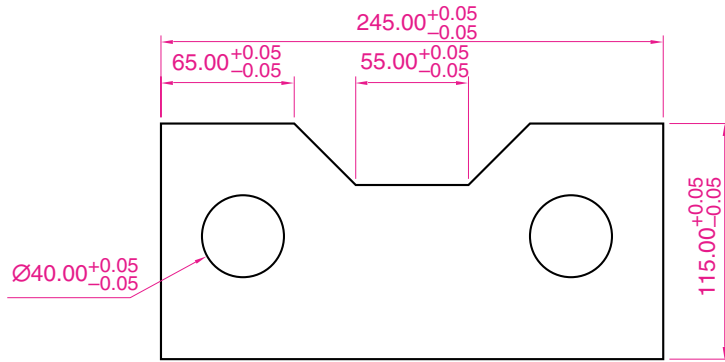

Fig. 6.24 Example – simple tolerances
Example – simple tolerances (Fig. 6.24)
2. Dimension the drawing using either tools from the **DIMENSION** toolbar or by *entering* abbreviations at the command line. Because tolerances have been set in the **DIMENSION STYLE MANAGER** dialog, the toleranced dimensions will automatically be added to the drawing (Fig. 6.24).
Example – Single Line Text (Fig. 6.24)
1. Open the drawing from the example on tolerances – Fig. 6.24.
The result is given in Fig. 6.24 on page 116.